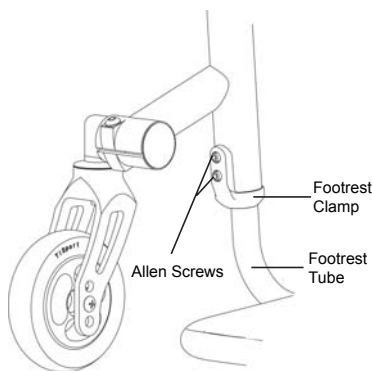

Figure 5.1
1. Loosen the two Allen Screws in the left and right footrest clamps that secure the footrest tube to the frame. See Figure 5.1. Loosen the screws sufficiently to permit the footrest tubes to slide up and down within the footrest clamps. Do not detach the footrest clamps from the frame.